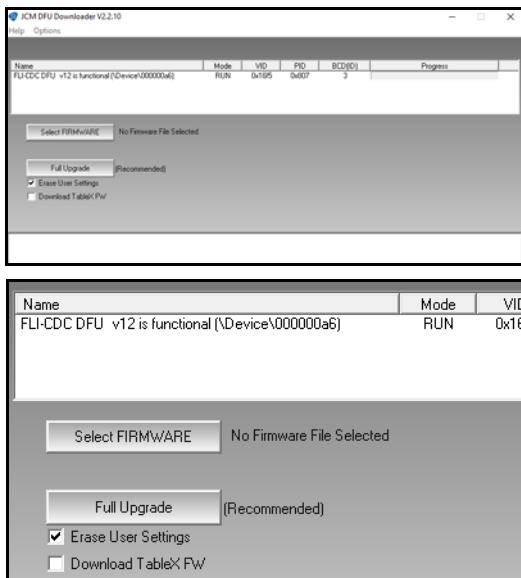

Figure 4 JCM Device Firmware Upgrade Downloader UI Window/Closeup
1. From your PC Desktop, launch the JCM Device Firmware Upgrade Downloader (JCM DFU) (Figure 4).